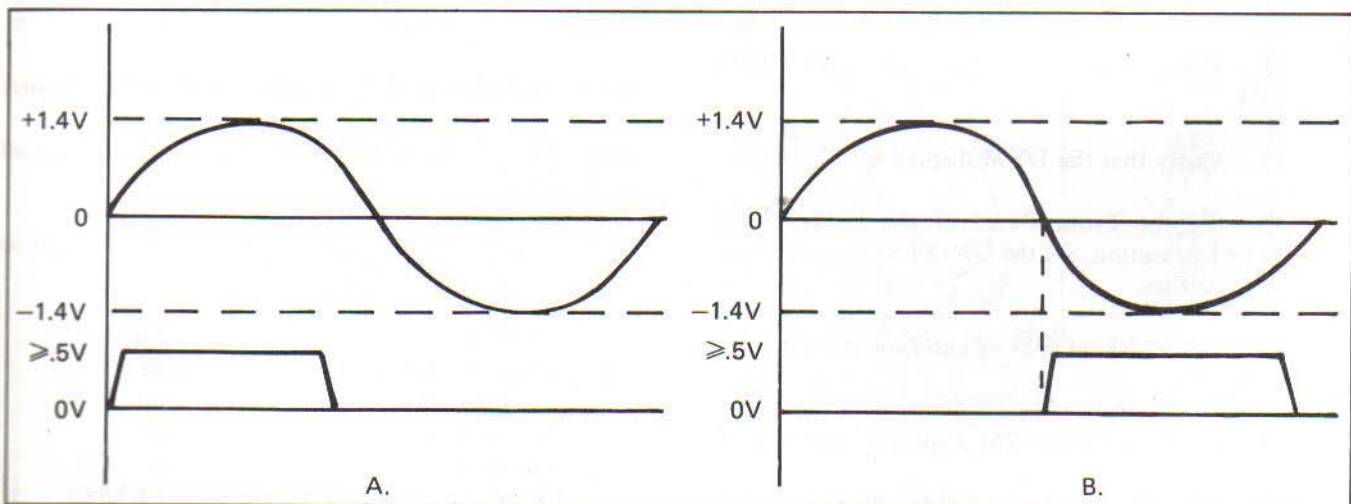

Figure 4-7. Marker Output Waveform
5. Verify that the waveform displayed on the oscilloscope is about the same as the waveform shown in Figure 4-7, Part A.
7. Verify that the waveform displayed on the oscilloscope is about the same as the waveform shown in Figure 4-7, Part B.